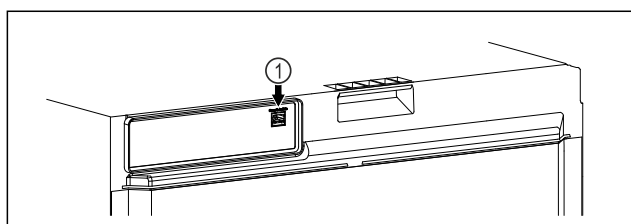

Fig. 105
- SmartModule Fig. 105 (1) has been inserted.